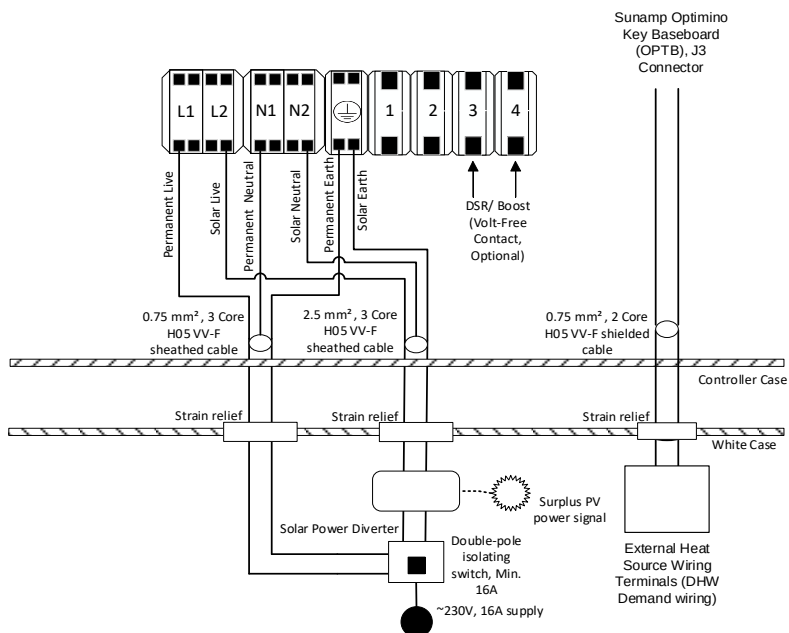

Figure 12 – Thermino xPlus Heat Battery wiring with solar power diversion
- With Solar Power Diversion follow (Section 6.4.2, Figure 12).
Potential dual-supply - Always isolate both supplies to the Heat Battery controller before working on the appliance. Ensure that Links 1 & 2 are removed (see Figure 12) and that the power diversion controller output is modulating AC.